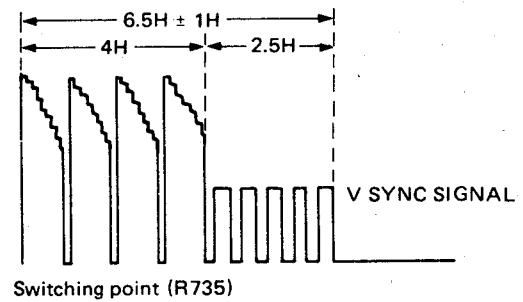

Figure 81.
3. Setting sync slope of oscilloscope to (-), adjust R735 as shown in Fig. 81.